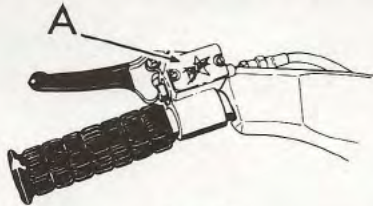

Fig. 1
1. Remove master cylinder reservoir cover and fill to top lip of reservoir. Refer to Fig. 1, Item A.